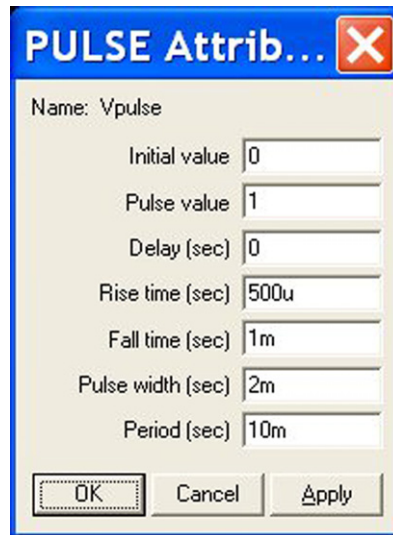

FIGURE 6.26
12. Create a pulse source named **Vpulse (Stimulus > New)** with an initial value of 0 V, an amplitude of 1 V, no initial delay, a rise time of 500 μ s, a fall time of 1 ms, a pulse width of 2 ms and a period of 10 ms (Figure 6.26). Click on OK and save the stimulus but do not Update Schematic when prompted. Exit the Stimulus Editor.